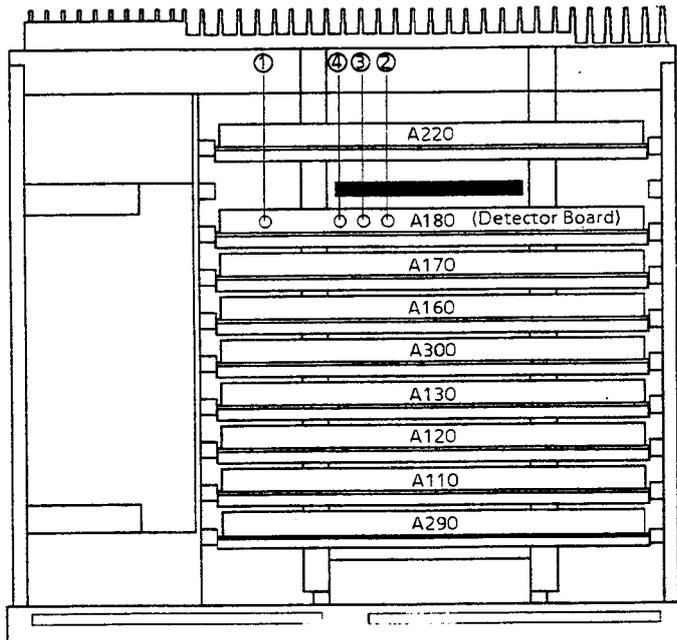

Fig. 4-7 Position of the adjustment points for the module DETECTOR BOARD
- ▶ Turn the potentiometer "METER FULL SCALE" R654 ② (fig. 4-7) such that meter indication is identical with the 50-dB marker.